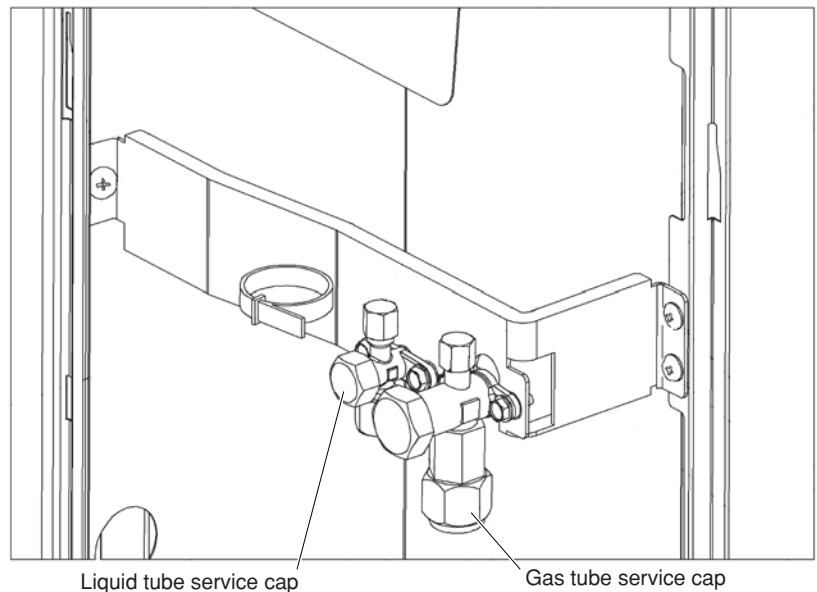

Fig. 8-2
- (5) Both the gas and liquid tube service valves are open. If not, open them now. (Fig. 8-2)
- (6) Request that the customer be present for the trial run.